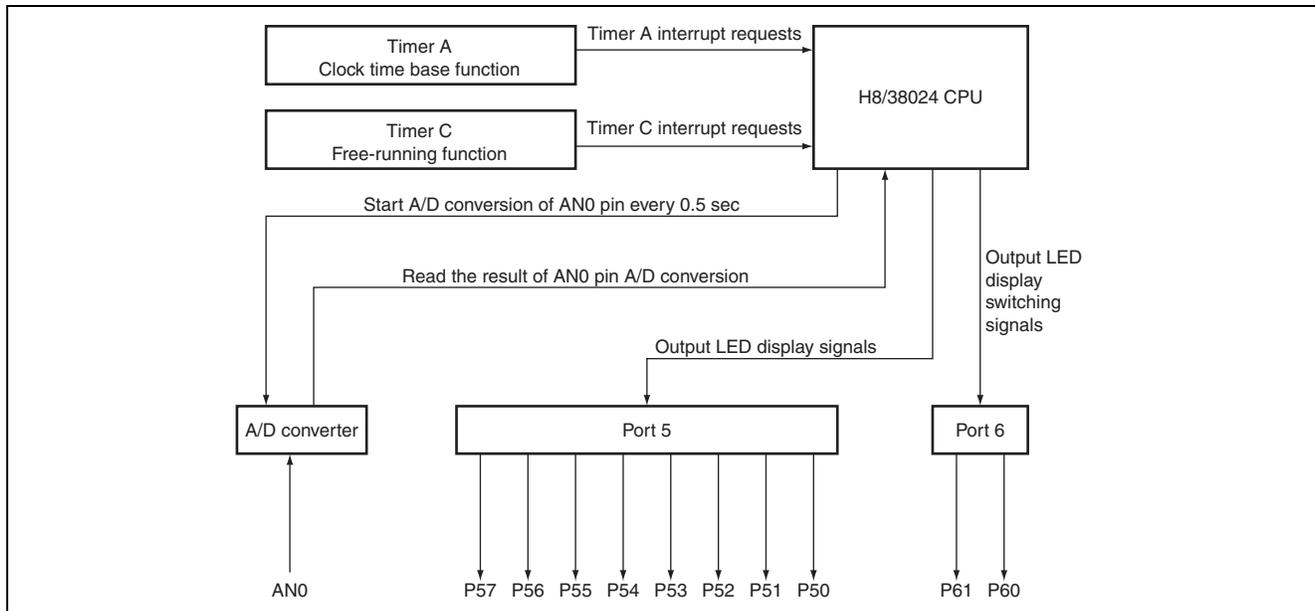

Figure 2.1 Block Diagram of Functions Used
- Figure 2.1 is a block diagram of the H8/38024 functions used in this sample task. Table 2.1 shows function allocations.